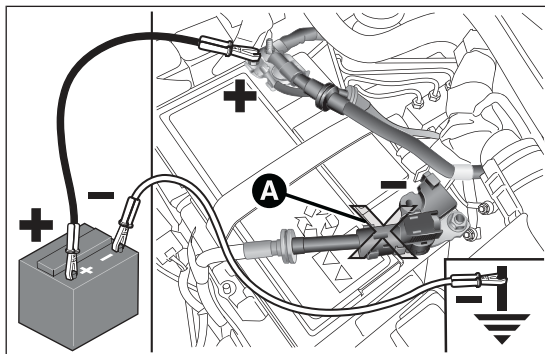

fig. 112
- ☐ connect the positive terminals (sign + near the terminal) of the two batteries with a jump lead fig. 112;